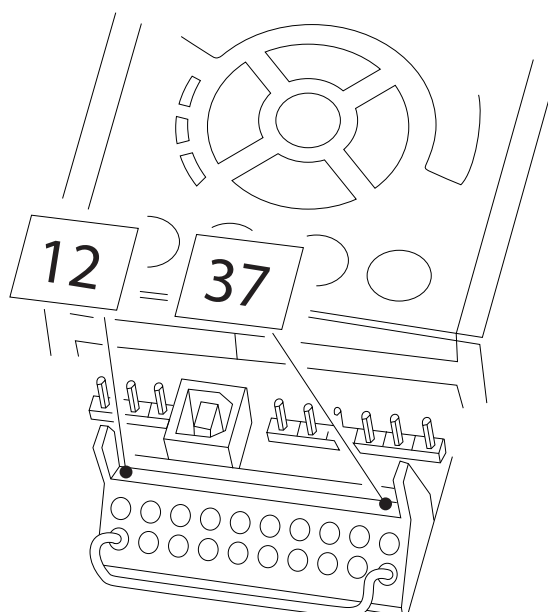

Figure 2.4 Bridge jumper between terminal 37 and 24V DC
1. The bridge (jumper) between Terminal 37 and 24V DC must be removed. Cutting or breaking the jumper is not sufficient. Remove it entirely to avoid short-circuiting. See jumper in Figure 2.4.